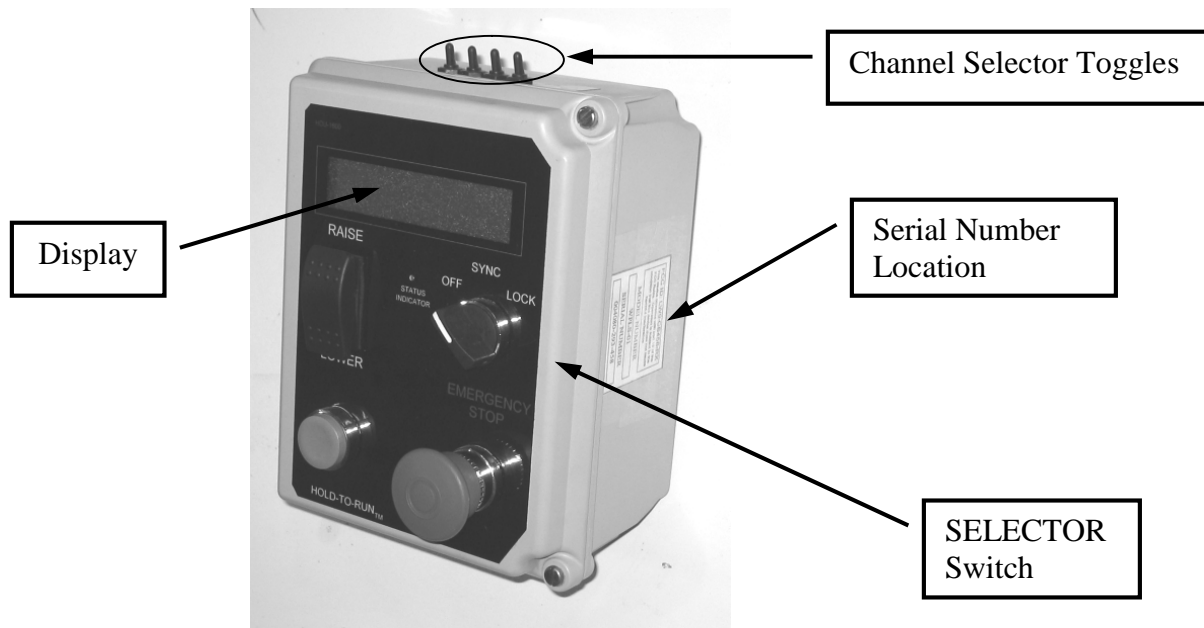

Figure 5
4. Move any Toggle switch to a new position. See **Figure 5**. Reference **Table 2** for Channel Selector Toggle patterns. A Toggle pointing away from the Operator is considered ON; pointing towards the Operator is OFF.